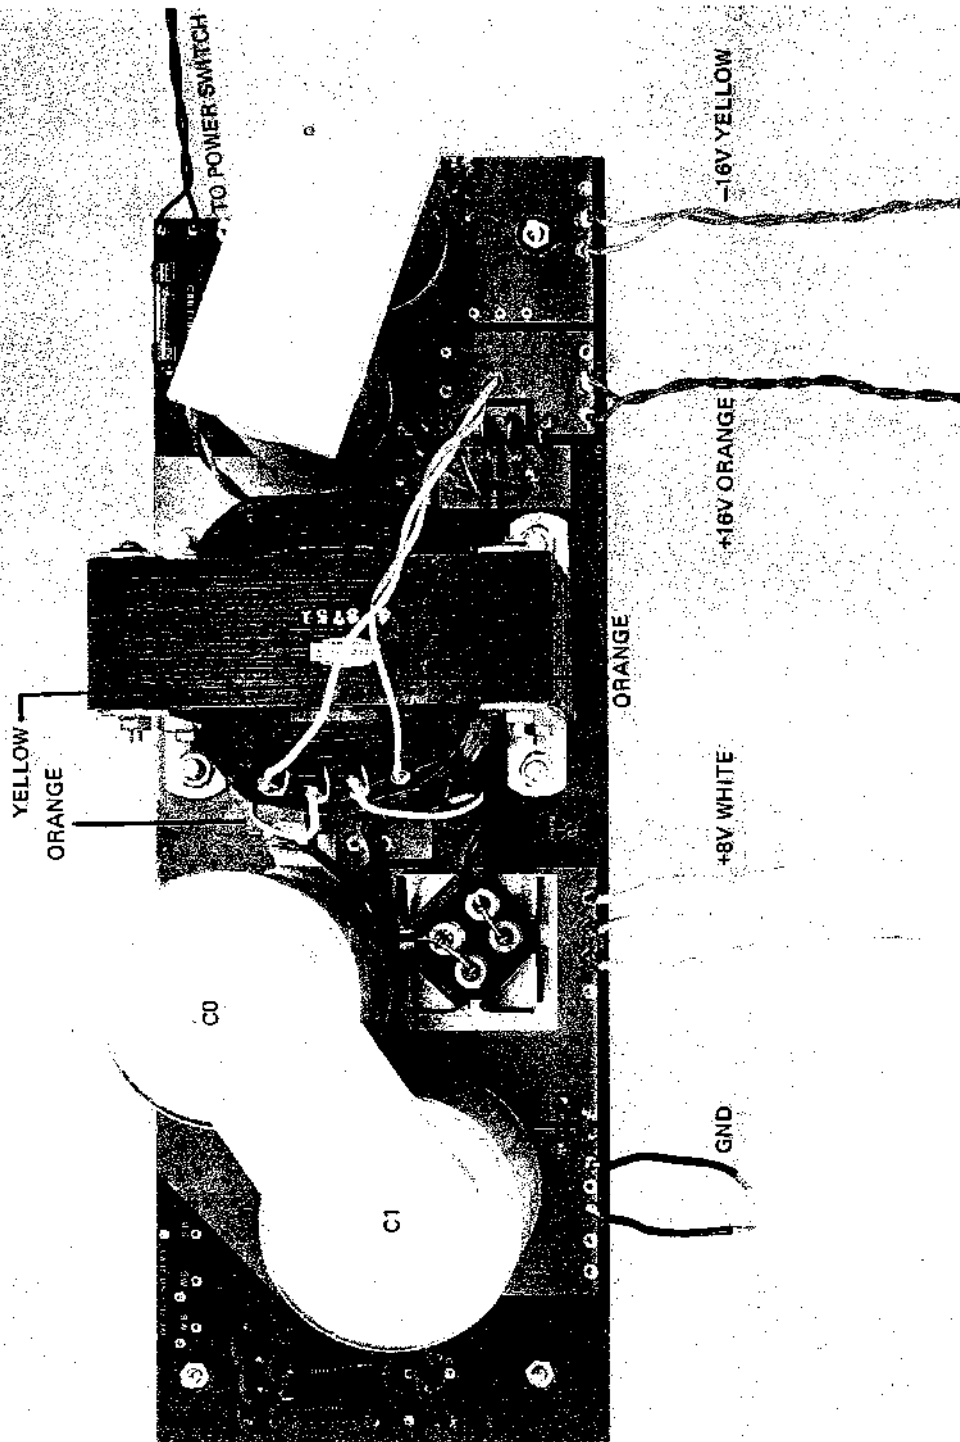

FIGURE 1 PS-28D OVERALL
- 8) Insert and solder each of the two fuse clips in locations as shown on the Assembly Diagram. See Figure 1 for clarification. Snap in the fuse.
- 9) Solder a yellow and an orange wire to the transformer lugs numbers 1 and 3 for AC. Wires should be twisted together. Solder twisted pair ends to the PSC board as shown in Figure 1.
- 14) Solder the other end of the short wire used above to the ground trace below terminal number 8 (see Figure 1 for clarification).